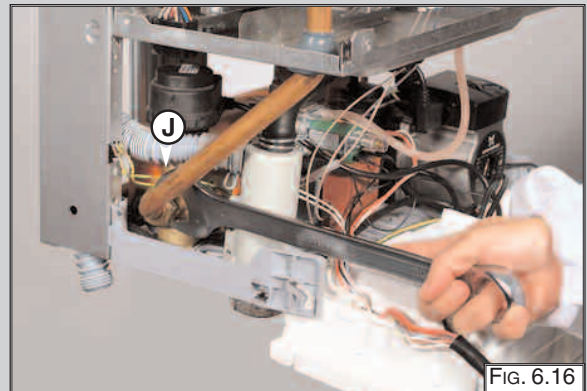

FIG. 6.16
5. Release the connection nut "J" (FIG. 6.16);